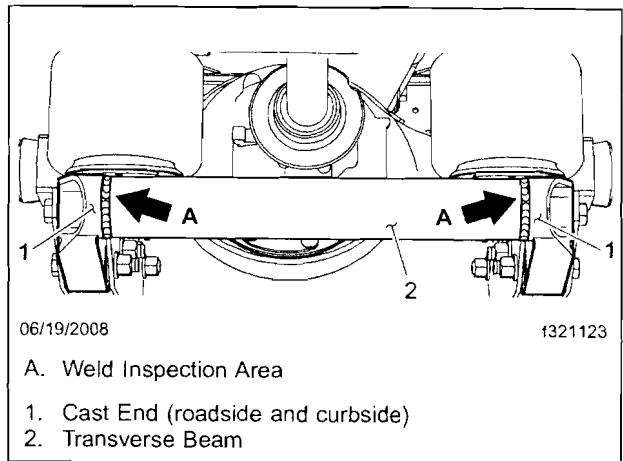

Fig. 3, Rear View of Transverse Beam
**NOTE:** There are two weld joints where defects may have occurred on the transverse beam. A joint at each end of the beam connects a cast end to the beam's tube structure. See **Fig. 3**. Welds at these joints are a circular band that wrap completely around the tube.